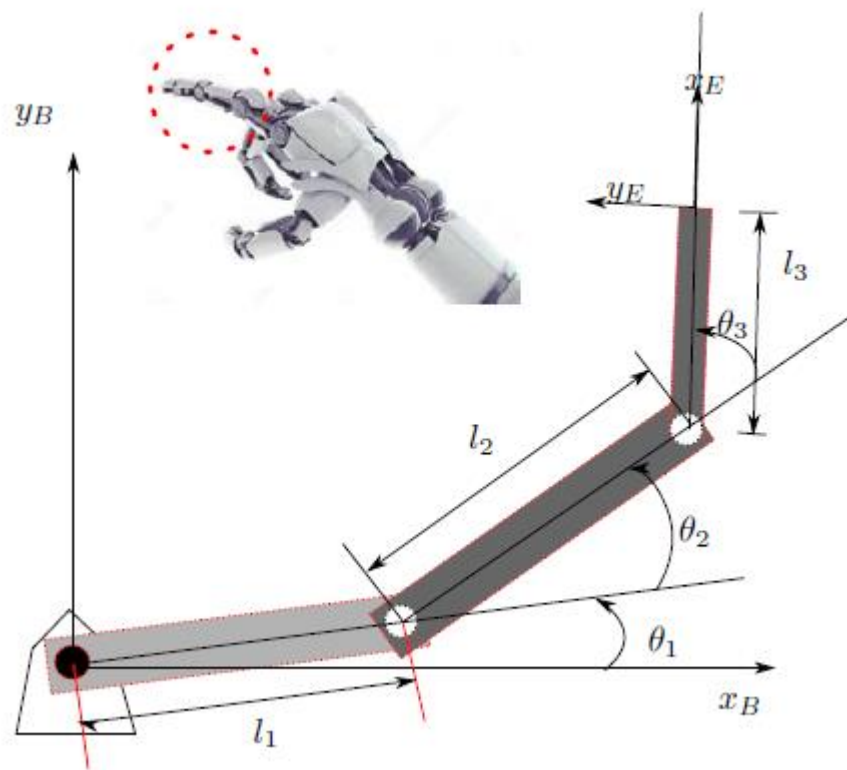

Figure 1: A fully actuated robot finger is modeled as a 3 revolute planar robot manipulator
1. Figure 1 shows a schematic 3R planar robot which has 3 revolute joints, used to represent 1 fully actuated robot finger.
- (a) Analyse the kinematics of the robot finger shown in Figure 1 by the following steps: